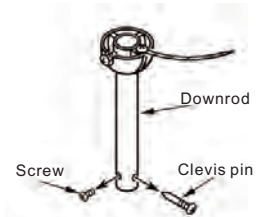

Fig.6
Step 1: Remove the clevis pin and set screw from downrod assembly. (Fig. 6)